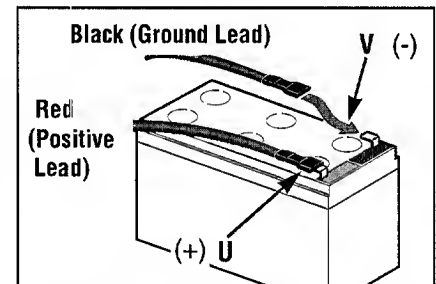

Figure 2-3: Connect wire terminals to battery terminals.
- Plug terminal on red (positive) wire into red terminal (U, Figure 2-3) on battery.
- Plug terminal on black (negative) wire into black terminal (V, Figure 2-3) on battery.